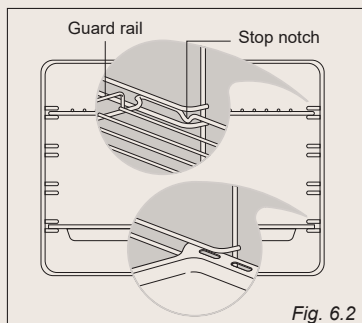

Fig. 6.2
- * Slide in, on the guides, the shelf and the tray (fig. 6.2).